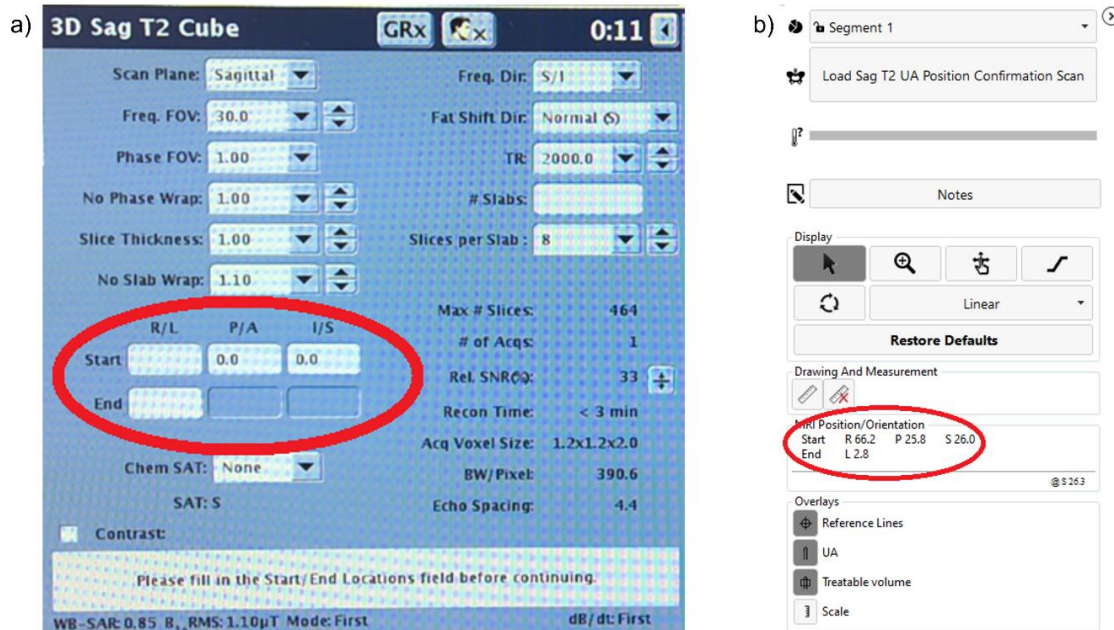

Figure 37: Manually prescribing Start/End Location coordinates for confirmatory SAG T2 scan
- b. **MRI Technologist:** For the new SAG T2 scan, manually input the **Start / End Location** coordinates displayed in Coarse Planning on the TDC (Figure 37). Acquire the scan and send it to the TDC.